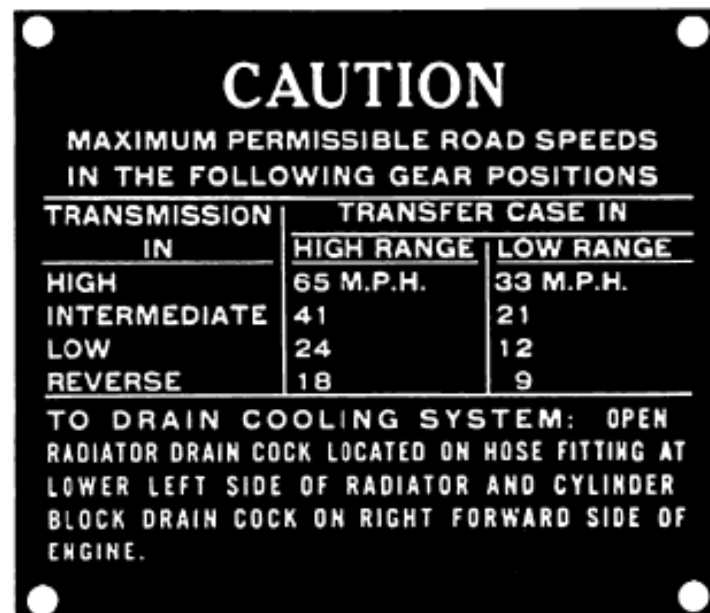

FIG. 3—CAUTION PLATE
**Caution Plate—Fig. 3 & No. 26, No. 1**